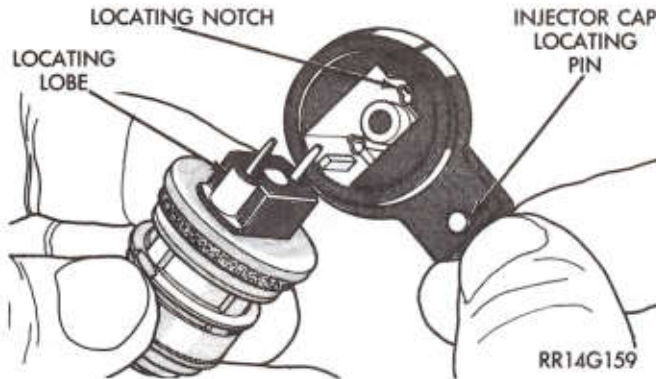

Fig. 10—Fuel Injector and Injector Cap
- (2) Align the injector terminal housing with the locating socket in the injector cap (Fig. 10).